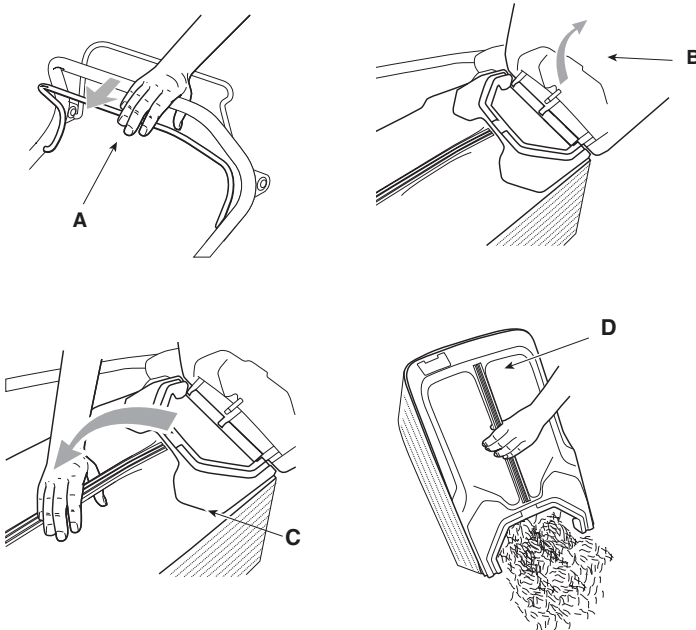

Figure 15
1. Release the engine / cutting means brake lever (Figure 15.A).
3. Lift the rear discharge guard (Figure 15.B).
4. Grasp the handle (Figure 15.C) and remove the grass catcher keeping it in an erect position (Figure 15.D).